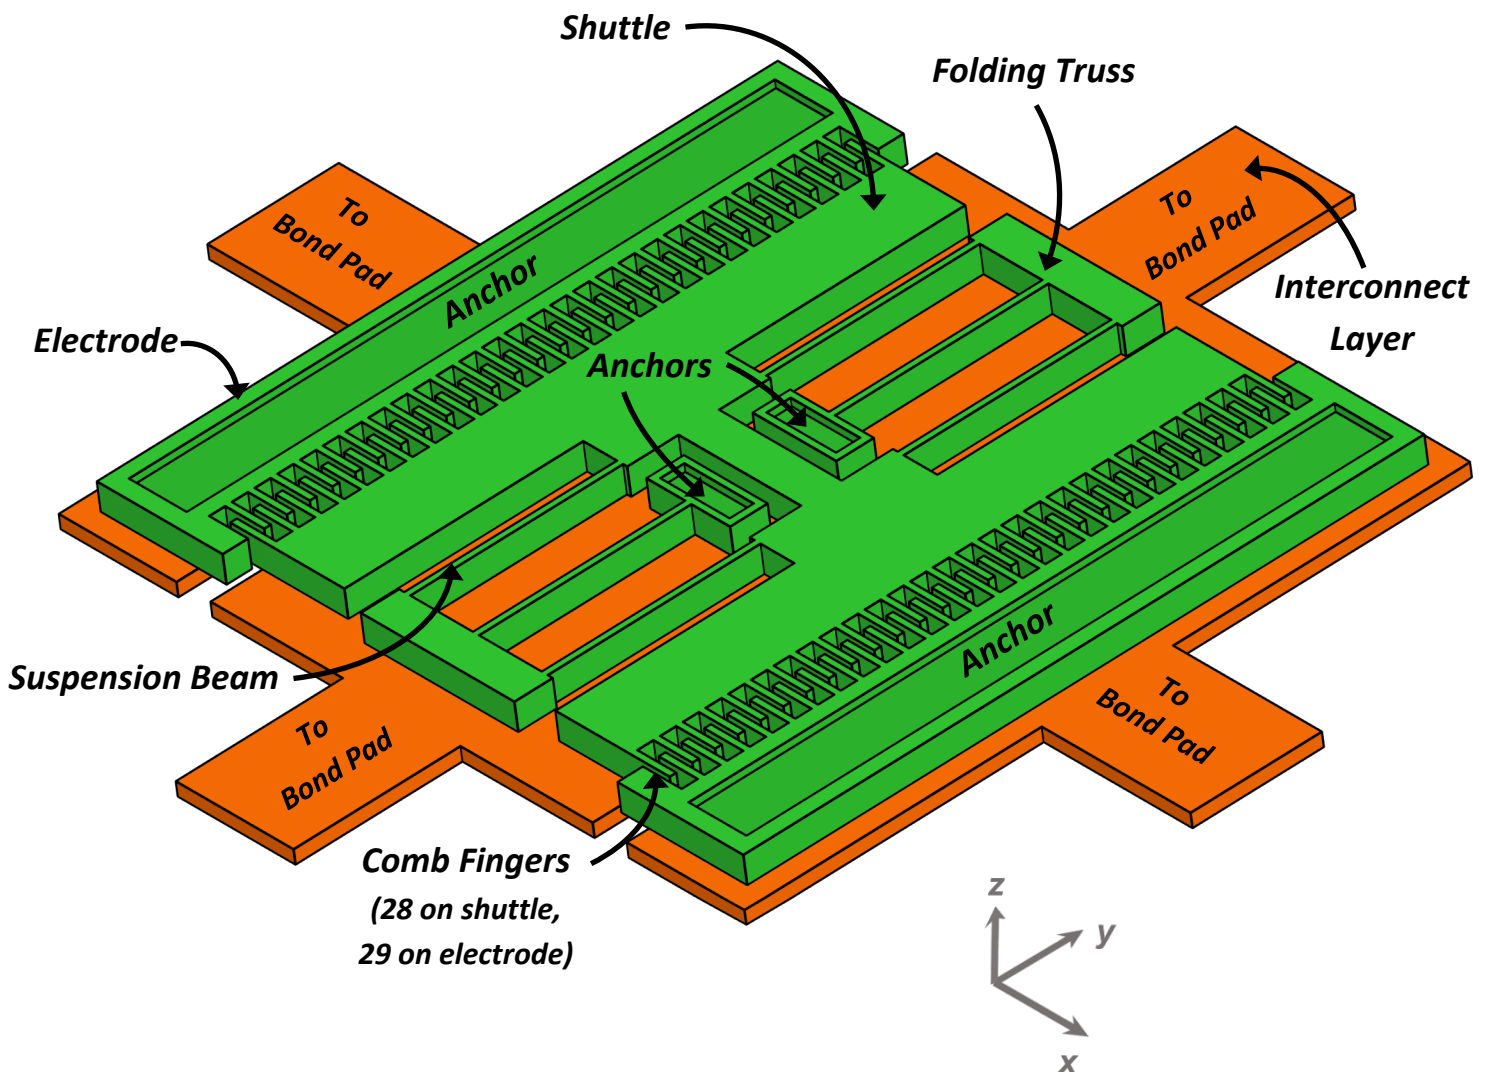

Figure PS5.2
2. Suppose you would like to fabricate the folded-beam suspended comb-driven structure described by Figures PS5.2 – 5.5 and the process flow in the pages that follow. The structure is constructed entirely of doped polysilicon, i.e., the green and orange layers are both doped polysilicon, and this particular device features a shuttle mass suspended $2\ \mu\text{m}$ above the substrate by a folded-beam suspension. Dimensions for the structure are given in the figures. The device is symmetric in both the x and y directions. The structure itself (green layer) is $2\ \mu\text{m}$ thick and the interconnect features below (orange layer) are made of a thin doped polysilicon layer. Note that not all dimensions in the figures below are to exact scale.